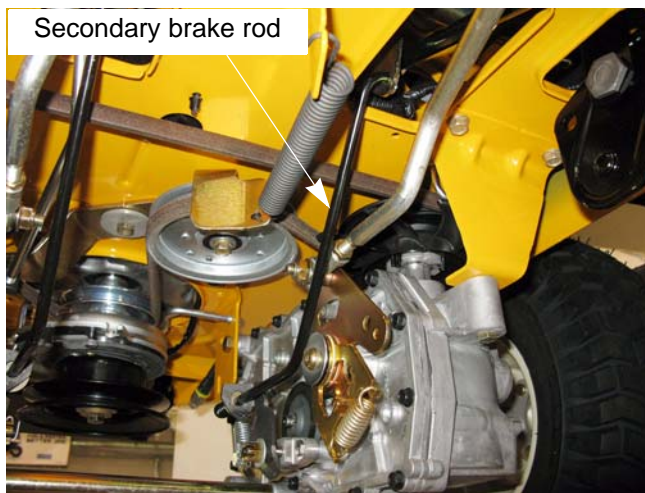

Figure 4.5
3. Disconnect the secondary brake rod from the brake shaft bell crank by removing the bowtie clip. See Figure 4.5.